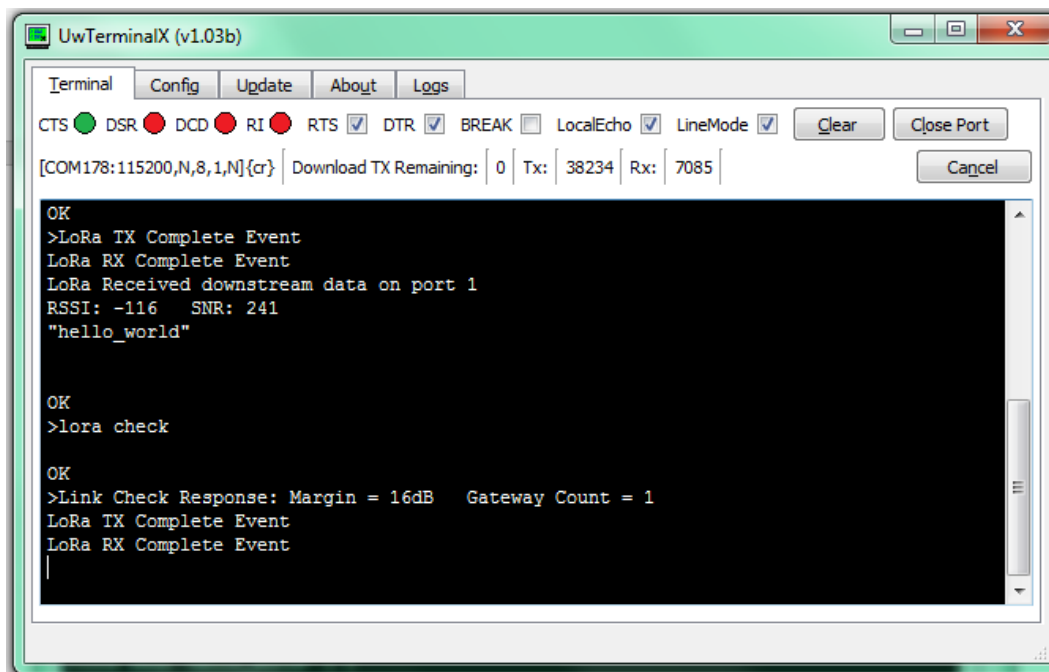

Figure 5: Successful link check request
7. To send a Link Check request to the gateway, type **lora check** and press enter. The terminal displays the results as shown in the following figure (Figure 5).